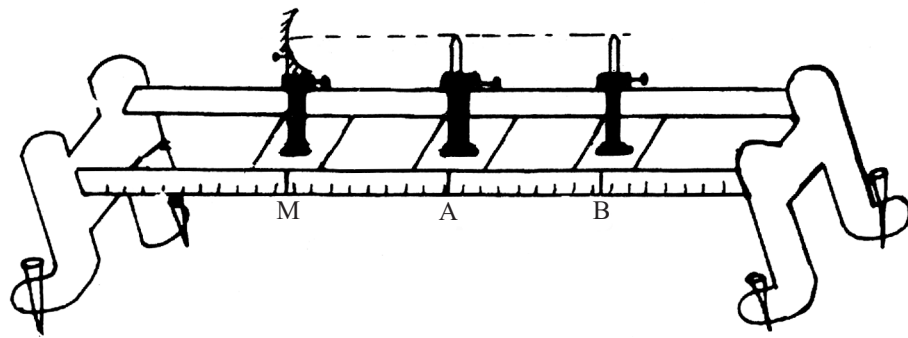

Fig 13.1: Experimental set-up
- (iv) Fix the mirror in mirror-holder and *adjust the tips of the pins so that they are in the same horizontal line as the pole of the mirror* (See Fig. 13.1).